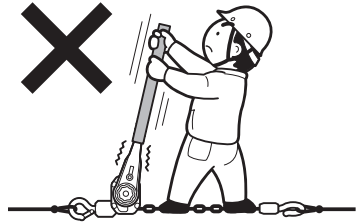

Figure 12
- (9) Do not use this equipment as a sling suspension device. Also, do not use with the load chain wrapped around the load.
- (10) Never operate equipment by means of pipes, etc. inserted into the Equipment or by stepping on the Equipment with your feet. (Figure 12)